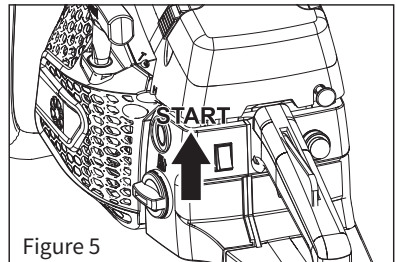

Figure 5
- Set the switch to the "START" position (see Figure 5).